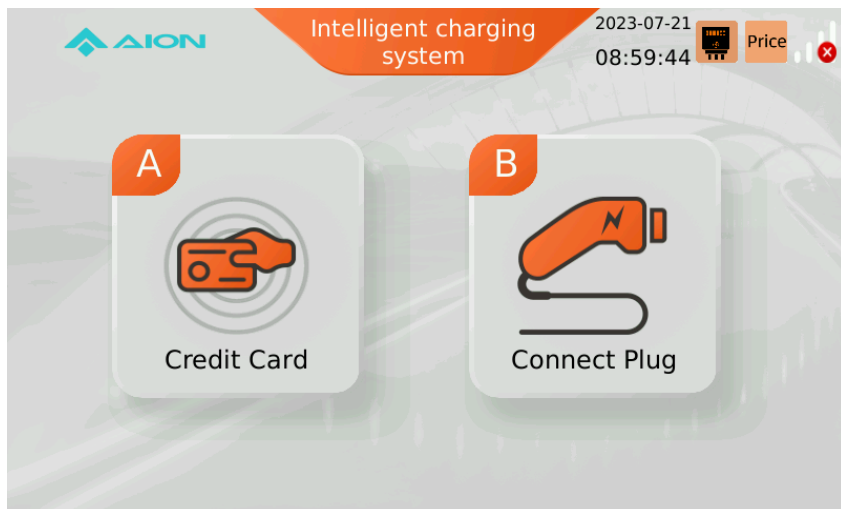

Figure 3.2 Charging interface of "Swipe card charging"
1. Swipe card charging: After the charging tip is connected, click the state of "Please scan code" on the corresponding charging terminal (A/B plug) on the screen, and switch to the state of "Please swipe card", as shown in Figure 3.2.